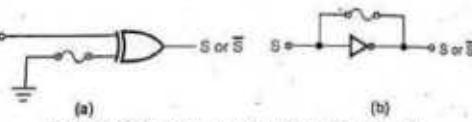

Fig. 7.12.10 Inverting and non-inverting circuits
- The typical circuits for invert/non-invert matrix is as shown in Fig. 7.12.10. In both the cases if fuse is intact the output is in its uncomplemented form; otherwise output is in the complemented form.